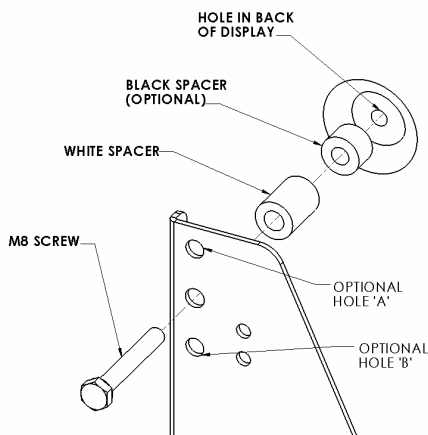
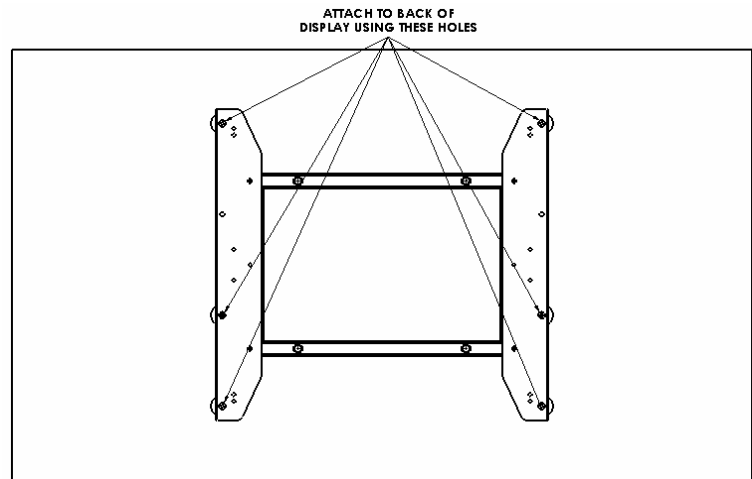

Figure 6
Figure 7
- Place nylon spacers over the mounting holes on back of screen. Attach mounting brackets to display using the M8 screws (See Figure 6 & Figure 7). If necessary, use both white & black spacers and longer screws. It may be necessary to shift the adapter up or down to eliminate obstructions. If so, use optional holes shown in Fig 6.